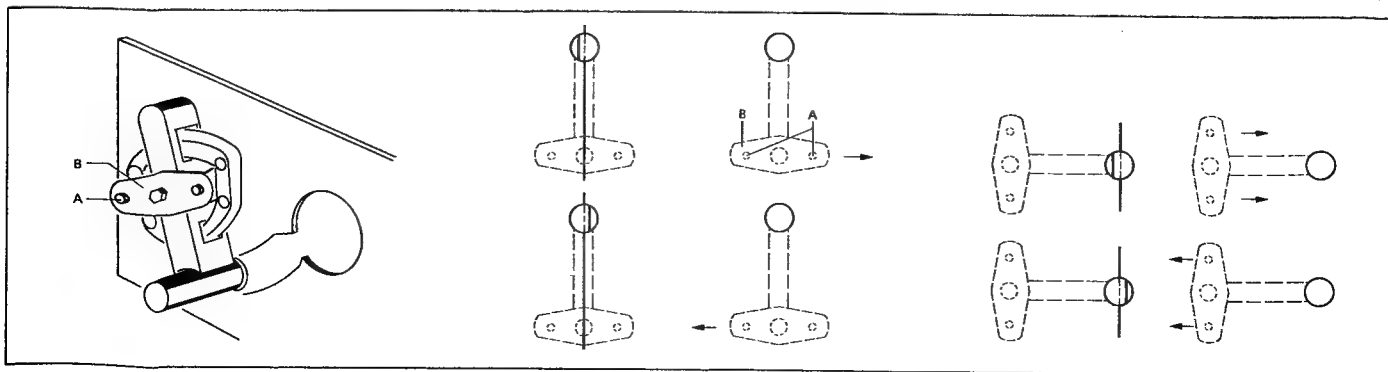

Fig. 4.15
-> Fig. 4.15
- Loosen the 2 screws [A] so that the bearing plate [B] can be shifted. (Fig. 4.15)
- Correct the position of the bearing plate according to Fig. 4.15.